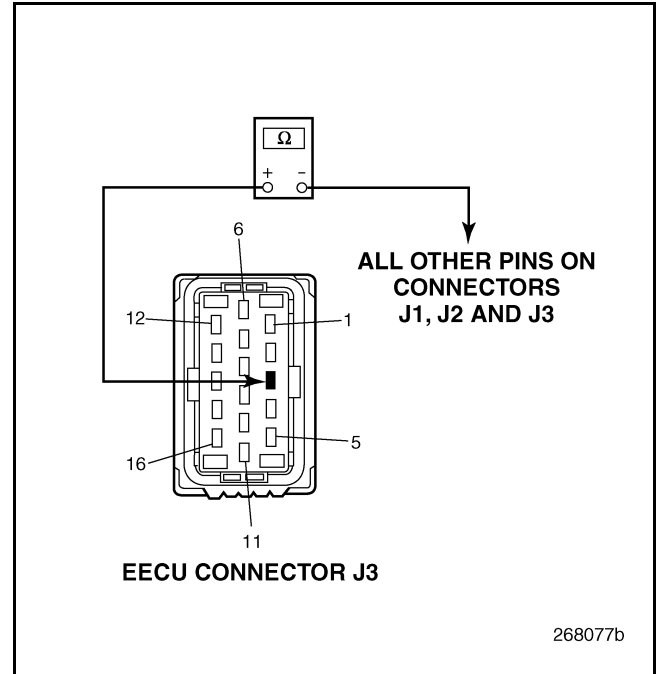

Figure 789
4. Check for continuity between EECU harness connector J3 pin 3 and all other pins on EECU connectors J1, J2 and J3 (see Figure 789).